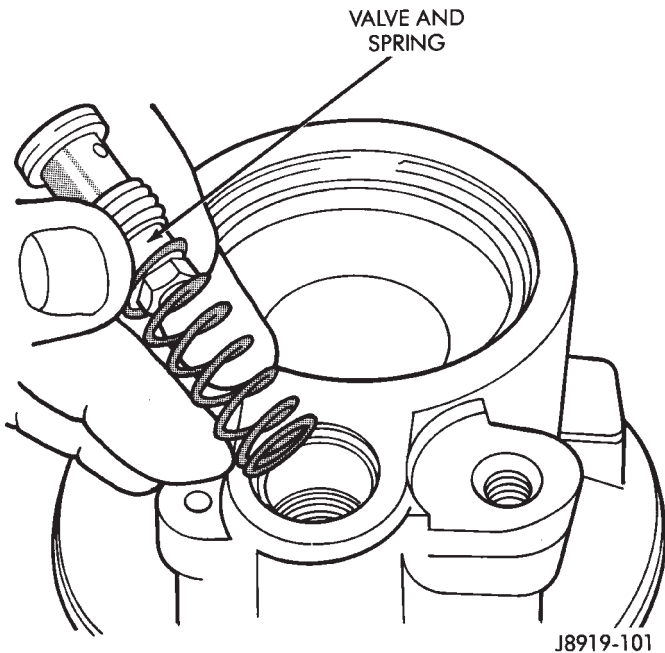

Fig. 2 Flow Control Valve/Spring Installation
- (1) Install flow control valve and spring (Fig. 2).